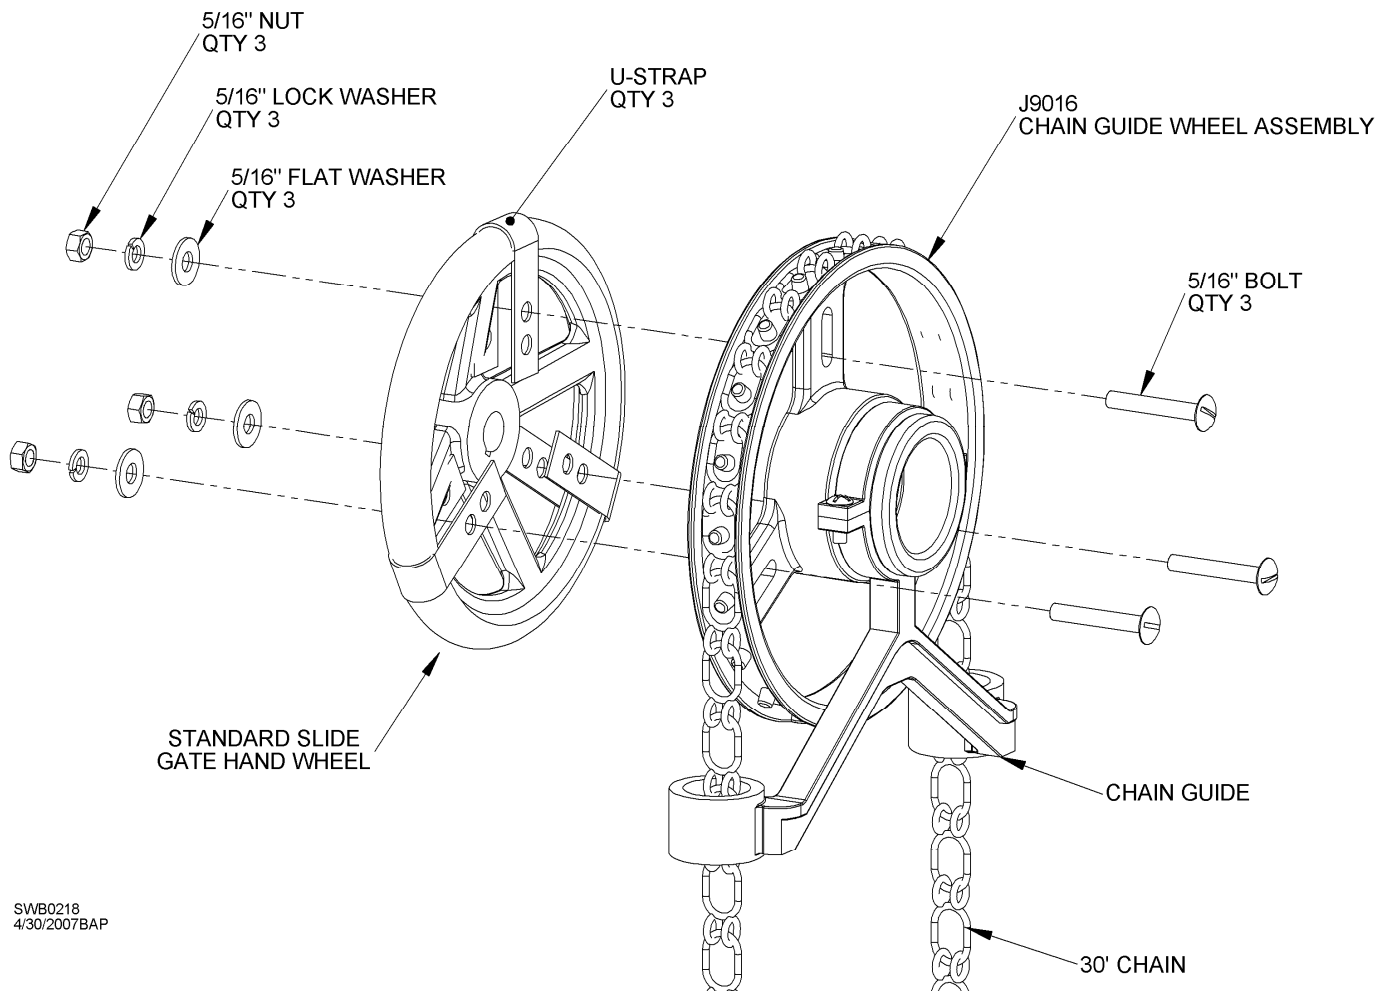

Fig. 7
All bolts, nuts, washers and straps are placed in same box as sprocket wheel and chain guide. Follow recommended steps and proper placement of straps and sprocket wheel. See Fig. 7.
3. Push bolts in from front as shown in Fig. 7, going first through slots in sprocket wheel and then through holes in U-straps. Fasten loosely with flat washers, lock washers and nuts.